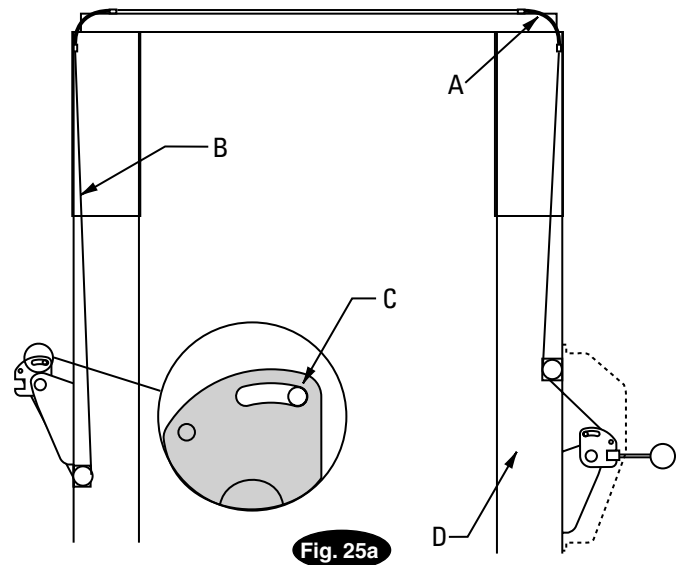

Fig. 25a Detail
- D) Attach latch cable conduit guide brackets to overhead as shown, Fig. 25a & Fig. 25b. Always use the holes on the approach side of the lift. HHCS should be in hole nearest the center of the overhead, Fig. 25b.
- E) Route cable up inside column and through the latch cable guide, Fig. 25a & Fig. 25b.
- F) Continue routing cable to the left column latch cable guide, Fig. 25a & Fig. 25b, routing the cable through the left column latch cable guide, Fig. 25b.
- L) Next, pull the control plate down, Fig. 25a & Fig. 26, to eliminate any clearance between the control plate slot and the latch dog pin, Fig. 25a.